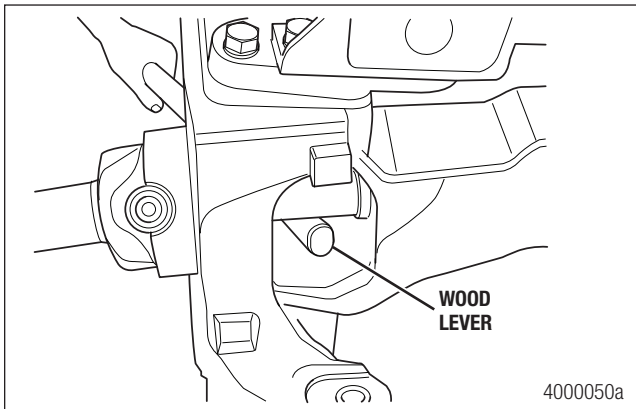

Figure 7.14
3. Install the inner axle shaft through the steering knuckle and into the axle housing. Use the piece of wood as a lever to support the axle shaft. Figure 7.14.